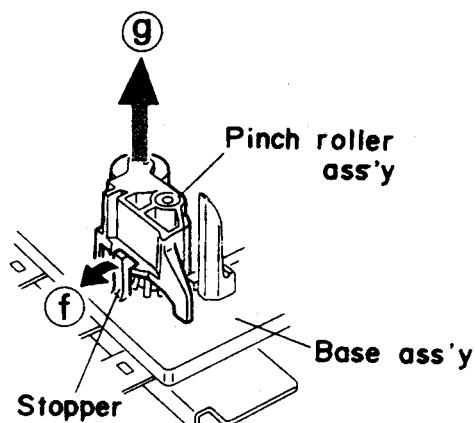

Fig. 2-25
■ Pinch roller assembly (Fig. 2-25)
1. Full out the stopper protruding from the base assembly in the direction of the arrow ① to remove it from the pinch roller assembly.
2. Then, pull out the pinch roller assembly in the direction of the arrow ②.